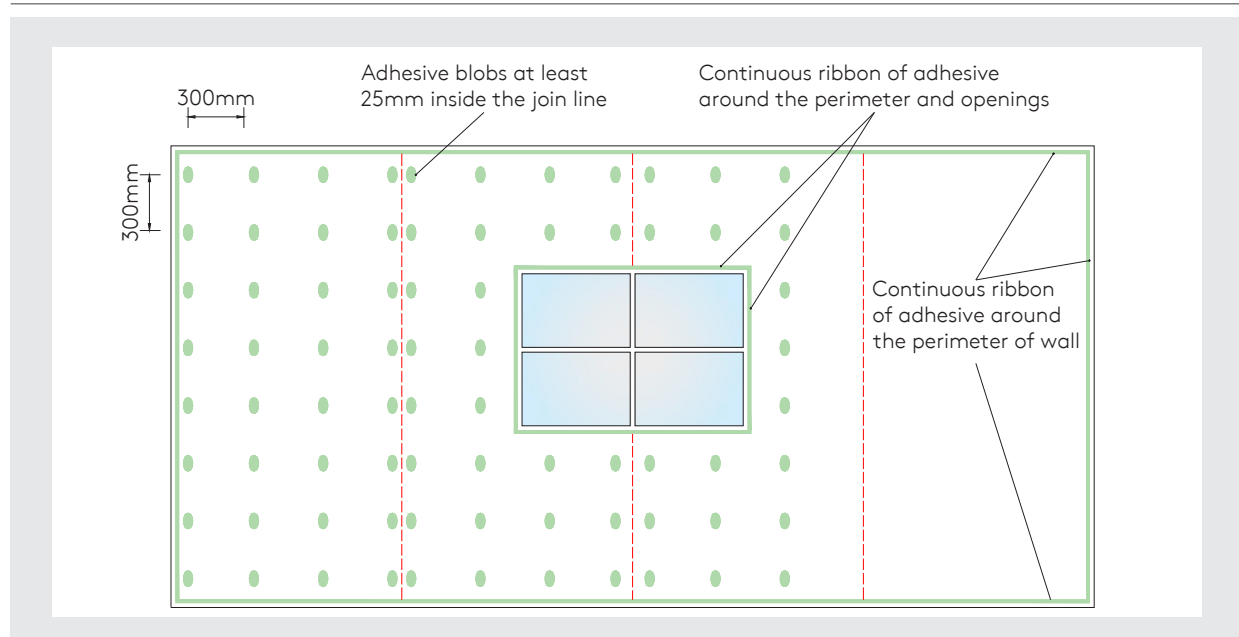

Figure 6 – Adhesive Blobs & Chalk Line Pattern
- Gun apply blobs of construction adhesive to the wall or the back of the board (Figure 6) approximately 25 mm in diameter (single squeeze), at 300 mm centres in both directions or to specific adhesive manufacturer's instructions.